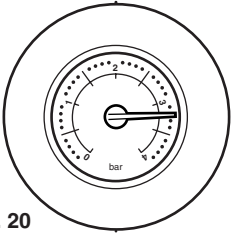

Fig. 20
3. A pressure of 3 or greater indicates a fault. The safety pressure relief valve will operate, at a pressure of 3 (Fig. 20). **It is important that your installer or Service Engineer is contacted as soon as possible.**